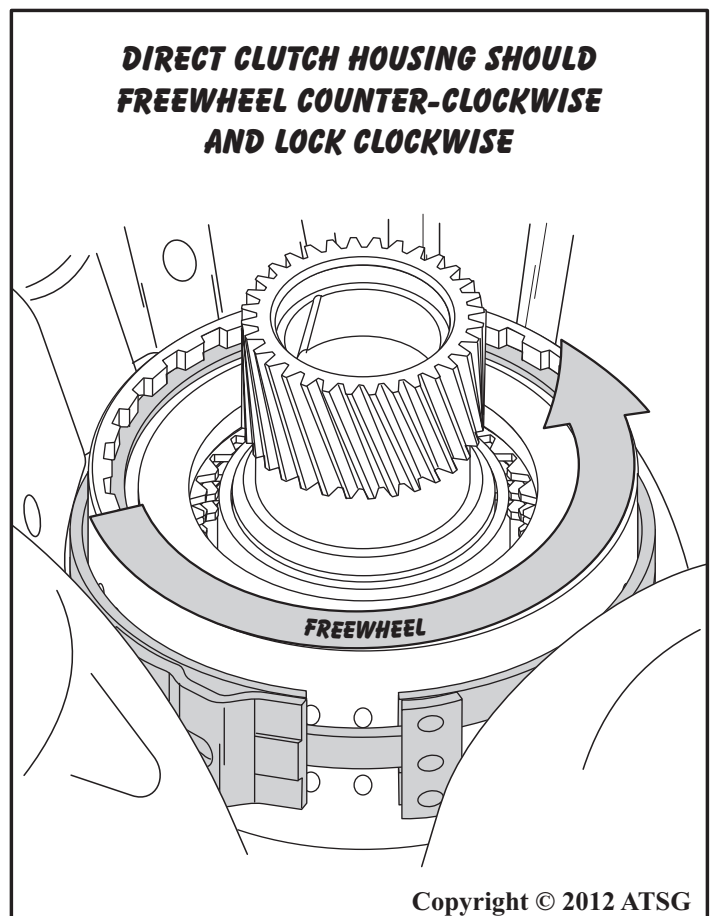

Figure 279
81. After installation and fully seated, direct clutch housing should freewheel counter-clockwise and lock in a clockwise direction (See Figure 279).